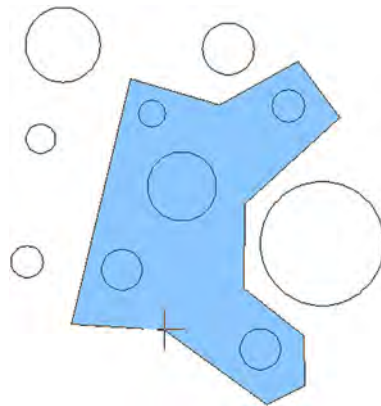

FIGURE 15.44
- Step 1.** Draw a set of circles, as seen in Figure 15.44.
Notice the difference here between the standard Window selection tool (strictly rectangular in nature) and the flexible “any shape you want it” Window polygon (Figure 15.44). Its action, of course, is similar; everything it encloses is selected.